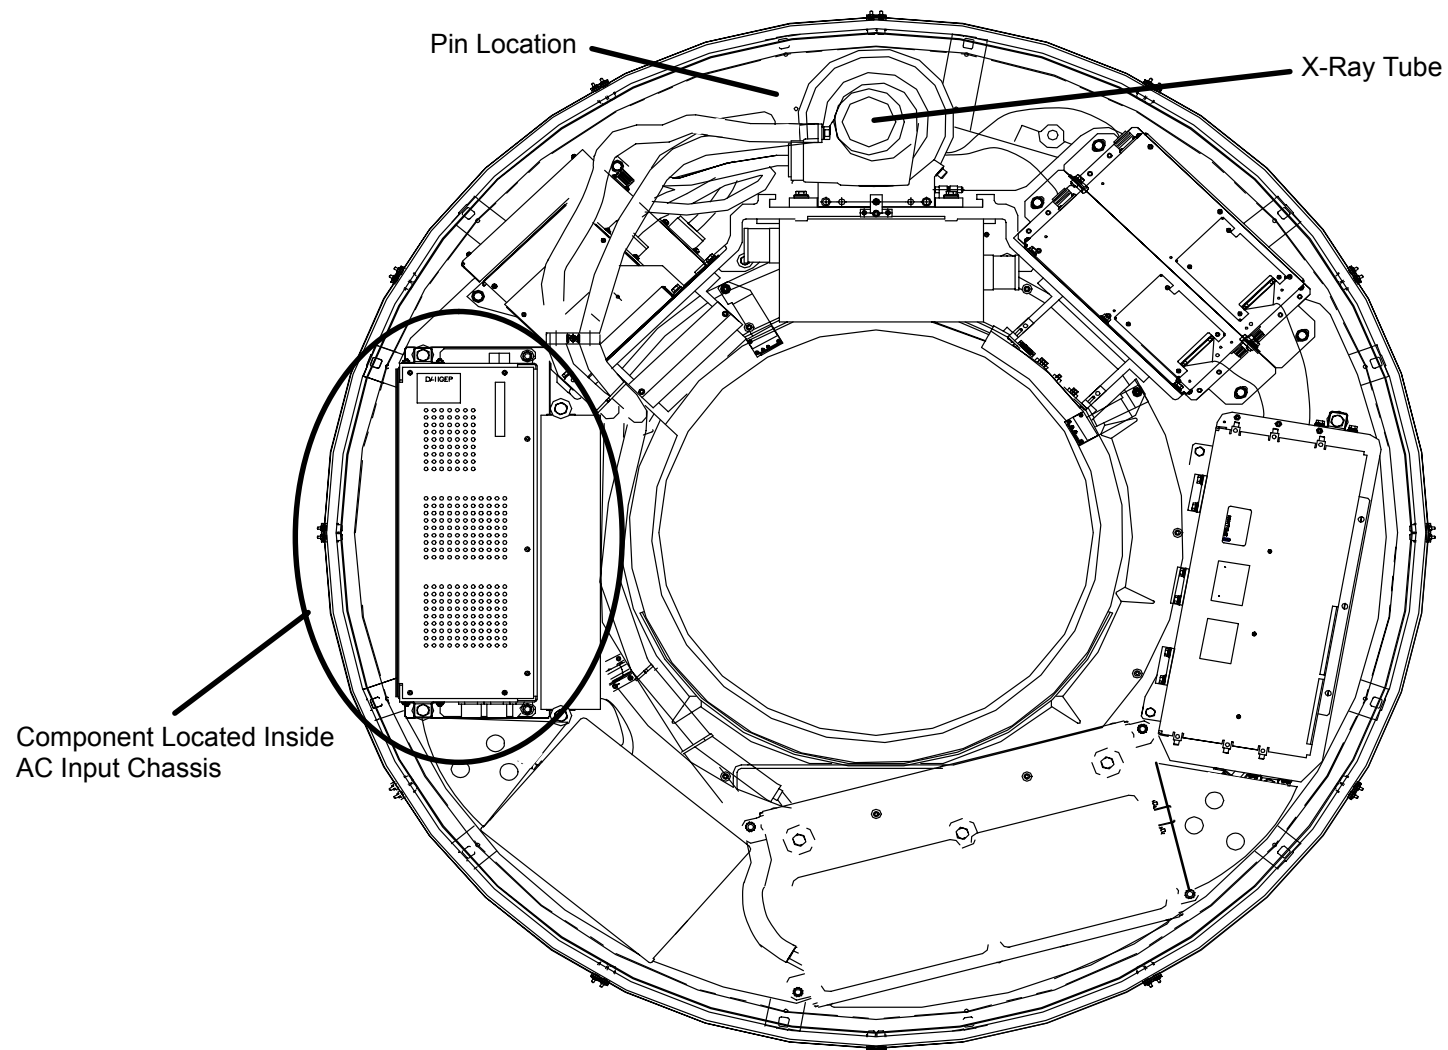

FIGURE 280 Scan Frame Pinned with Tube at 12:00
3. Rotate the Scan Frame counterclockwise by hand until the X-Ray Tube is at the 12:00 position. Lock the Scan Frame with the Locking Pin. See Figure 280.